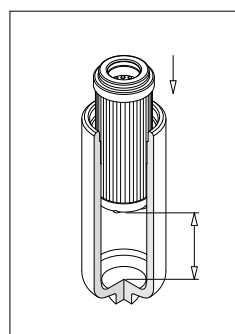

fig. 15
- (Fig. 15) Partially insert the filter element into the bowl, leaving it out about 50 millimetres [2 inches] to grab the cap